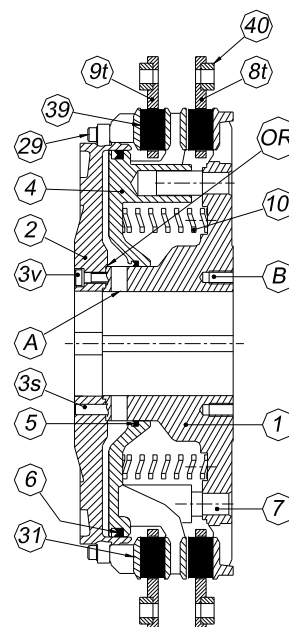

Fig. 1c – C/B unit with bushings. Floating friction blocks.
- 3) by clamping them on bushings by means of screws (ring locked in place – fig. 1c)